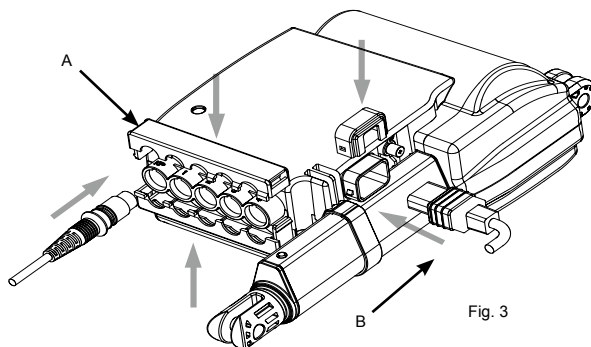

Fig. 3
4.2 Installation of LAK4D Fixer: After inserting connectors of an actuator and a key box, vertically insert back the fixer on LAK4D controller (A), and then fasten the up fixer and down fixer on LAK4D controller (Fig. 3). Before inserting the main power cord, rotate out the locker (B) along the arrow direction to insert power cord (Fig. 3) and then pull it back (Fig. 3) along the arrow direction.